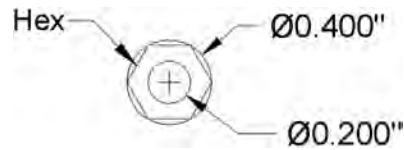

FIGURE 8.24
- Step 3.** To begin the drawing itself, we need to start with the hex bolts. Go ahead and draw one of them according to the information in Figure 8.24. Be *very* careful, all sizes are diameters *not* radiuses; you must tell AutoCAD this by pressing **d** for Diameter while making a circle. This has tripped up many students in the past. Also do not forget to make layer M-Part current. If the bolt is anything but green in color, you missed this step. The dimensions are only for your reference for now; there is no need to draw them.